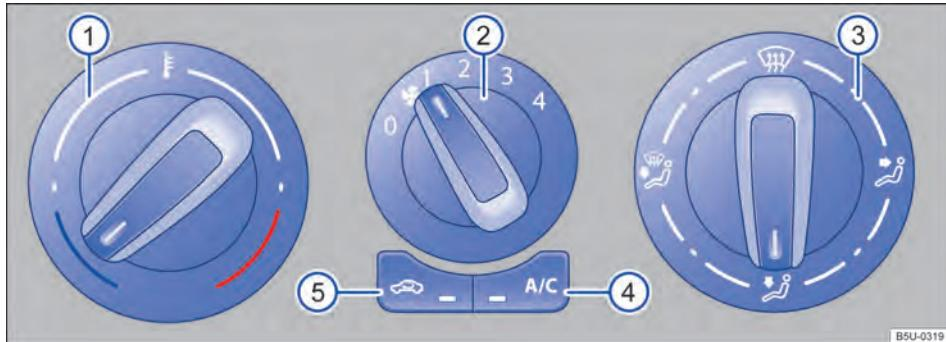

Fig. 75 Air conditioning controls.
- *Air conditioner*: rotate the blower regulator to level 0 → Fig. 75 ②.
- *Air conditioning*: turn the left knob → Fig. 75 ① to adjust the temperature.
- *Air-conditioning*: rotate the blower regulator → Fig. 75 ②.
In air recirculation mode, no fresh air enters the interior of the vehicle → Fig. 75.
- *Air-conditioning*: rotate the right regulator → Fig. 75 ③ to the desired position.
- Move the air recirculation switch → Fig. 75 ③ into position , in this position, the air recirculation is automatically switched off.
- Turn the blower knob ② to level 3 or 4.
- Set the temperature knob ① into the required position.